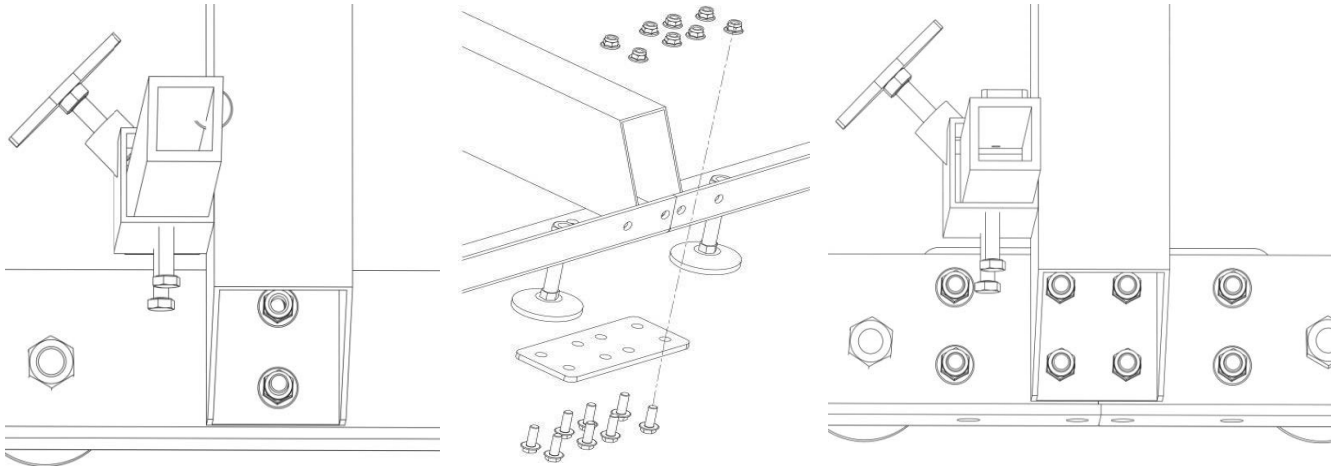

Fig.5-2: Mounting cross supports
2. Attach the rail cross supports to the L-profile using the supplied bolts and nuts. The connecting plate will be used at the seam to connect the two sections together (Fig. 5-2, bottom right). Tighten the bolts only hand-tight. The bolts will be fully tightened once the head assembly can roll freely on the rails. Also, ensure the correct track width.